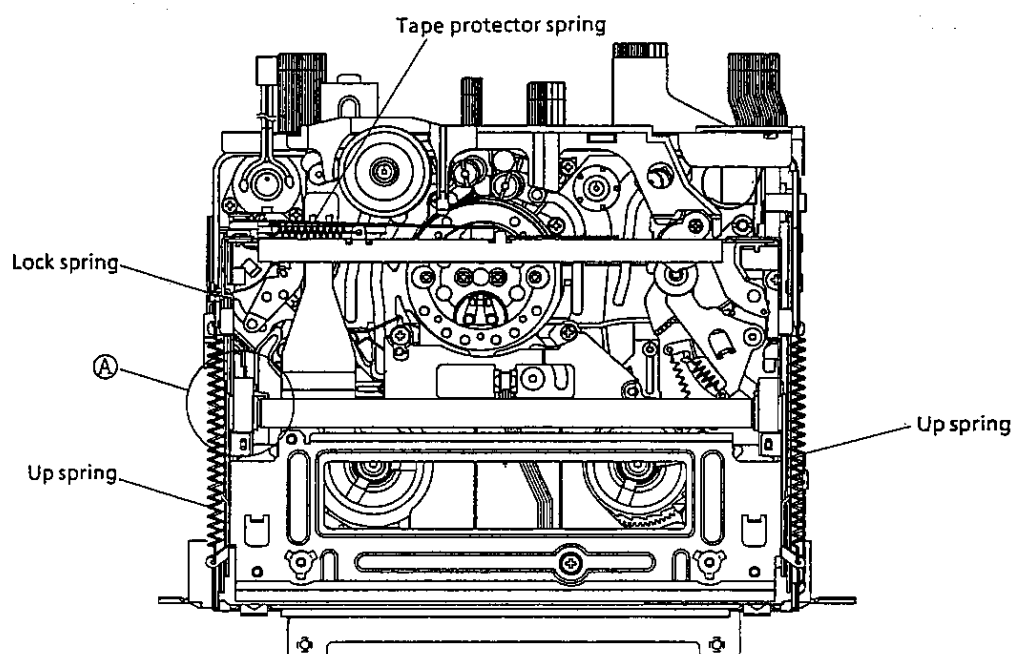

Figure 7-3-4(b).
- 8) For loading (For pressing down) the cassette control ass'y, be sure to press it at Area ① as shown in Fig. 7-3-4(b).